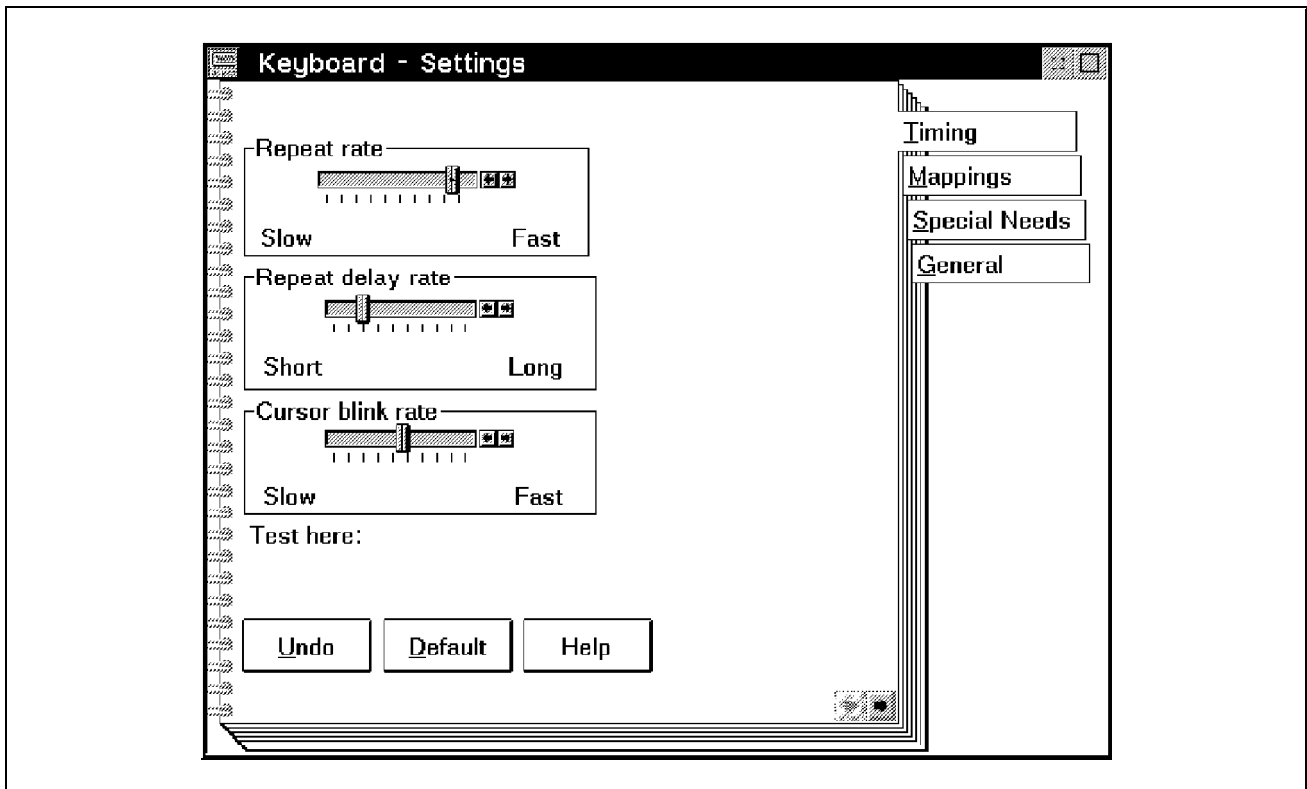

Figure 98. The Keyboard Settings Page
- Double-click at the keyboard icon. The **Setting** page appears as seen in Figure 98 on page 279.